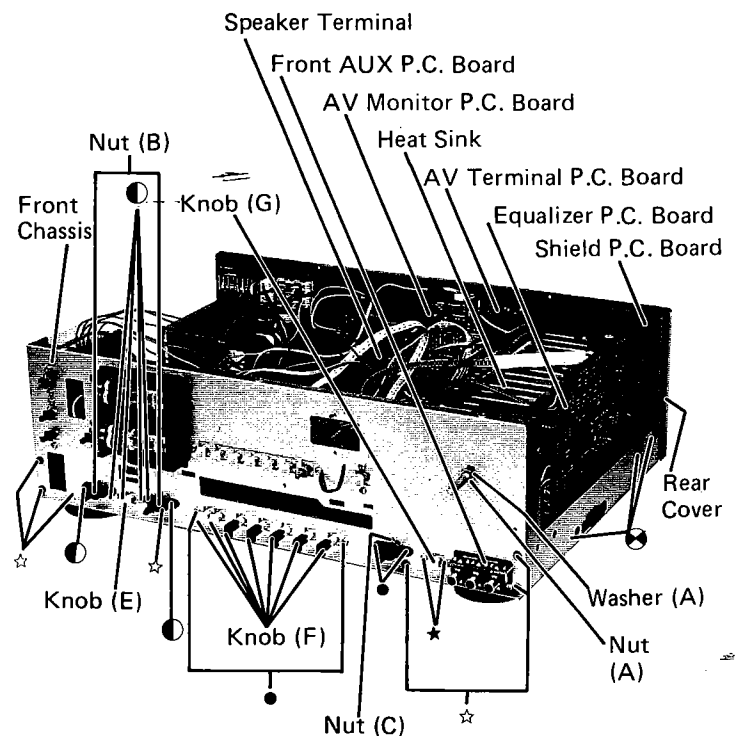

Figure 8
- (1) After removal of Front Escutcheon, remove seven screws marked "☆" as shown in Figure 8.
- (2) Remove Front Chassis upward and then proceed to items 7-1 ~ 7-9.
- (1) Remove one nut (A) and one washer (A) as shown in Figure 8.
- (2) Disconnect all wires from the Volume Control P.C. Board.
- (1) Remove one knob (E) and six screws marked "●" as shown in Figure 8.
- (2) Remove two nuts (B) as shown in Figure 8.
- (3) Disconnect all wires from the Tone Control P.C. Board.
- (1) Remove seven knobs (F) and remove four screws marked "●" as shown in Figure 8.
- (2) Remove one nut (c) as shown in Figure 8.
- (3) Disconnect all wires from the Function P.C. Board.
- (1) Remove one knob (G) and remove two screws marked "★" as shown in Figure 8.
- (2) Disconnect all wires from the Front AUX P.C. Board.